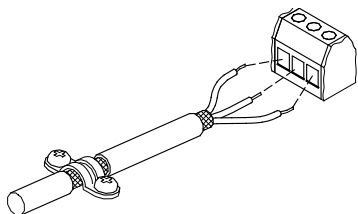

Fig. 17 Example of stripped cable with screen
- Leave the screen as close to the connecting terminals as possible. See fig. 17.